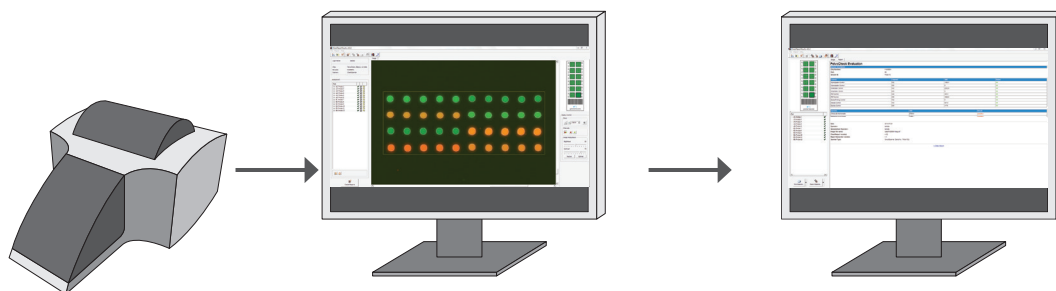

Figure 1: PelvoCheck® CT/NG assay procedure
PelvoCheck® CT/NG is a microarray-based test kit for the DNA-based detection of *Chlamydia trachomatis* (CT) and *Neisseria gonorrhoeae* (NG). The assay procedure, outlined in Figure 1, is based on the detection of a 16S rRNA gene fragment specific for these pathogens.